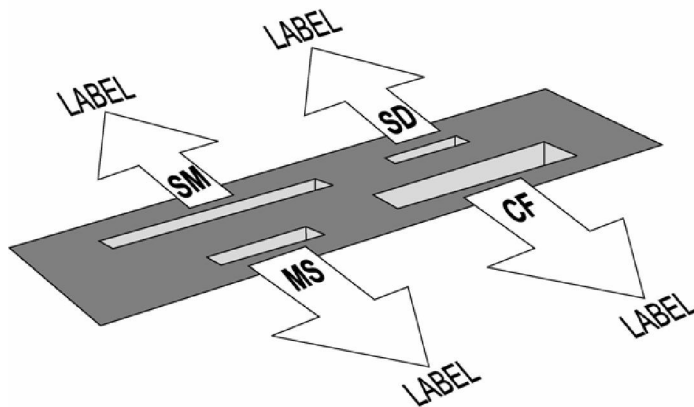

Figure 7 – Card Reader
2. Insert the flash-based media card into the appropriate card slot (i.e., CF, SD, etc.). Make sure that it is facing the correct way. Please refer to Figure 7 below.